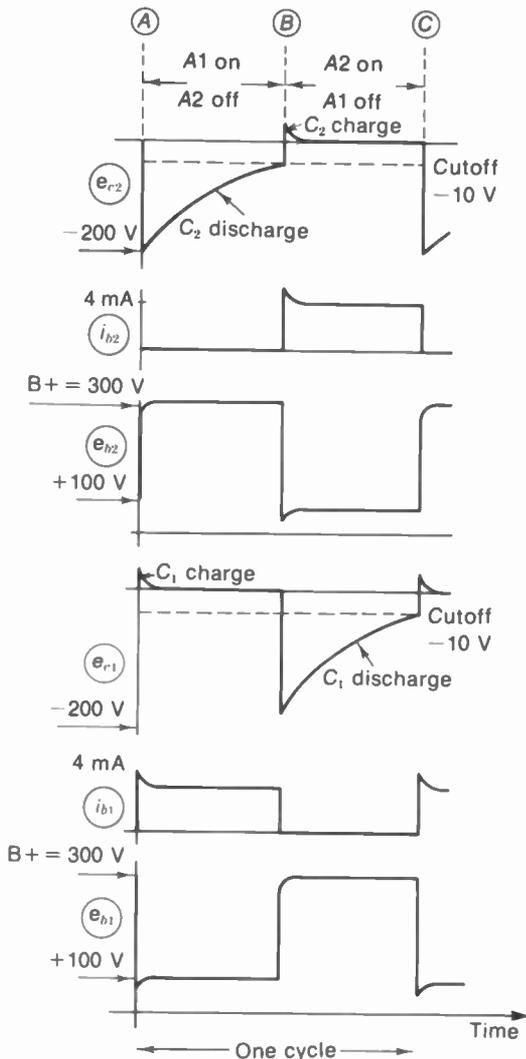

FIGURE 20-20 PLATE AND GRID WAVEFORMS FOR THE PLATE-COUPLED MV IN FIG. 20-19.
**Analysis of multivibrator waveforms.** Beginning at time A in Fig. 20-20, A2 has just been cut off because of conduction in A1. Assume that 4 mA of  $i_b$  flows through the 50-k $\Omega$   $R_{L1}$  of the first tube, producing a 200-V drop in plate voltage. Since the plate-to-cathode voltage applied across the  $R_2C_2$  coupling circuit is reduced abruptly from 300 V to 100 V,  $C_2$  must discharge. Instantaneously, the entire 200-V drop in voltage is developed across  $R_2$ , with the grid side negative, cutting off A2.
**Multivibrator frequency.** The time from A to C in Fig. 20-20 is one complete cycle, including a complete flip-flop of operating conditions. The frequency may be from 1 to 100,000 Hz, depending primarily on the RC time constant of the grid coupling circuits. The period of one cycle is exactly equal to the sum of the cutoff periods for both stages. From the grid waveshapes in Fig. 20-20, the cutoff time can be calculated as 0.0003 s, which is a half-cycle. For both tubes in this symmetrical MV, the total cutoff period is  $2 \times 0.0003 = 0.0006$  s. The frequency then is  $1/0.0006$  s, or 1,667 Hz, approximately.